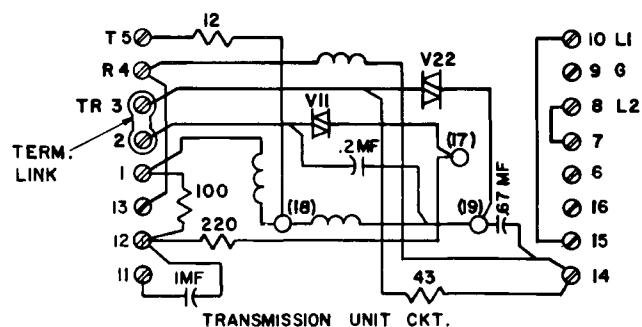

Figure 12. Schematic of transmission unit for self-compensating circuit.
3.9 The transmission unit schematic (figure 12) is for information for continuity tests, ohmmeter measurements, etc. During manufacture, the transmission unit is sealed; do not attempt repairs in the field. If it becomes damaged; replace it.